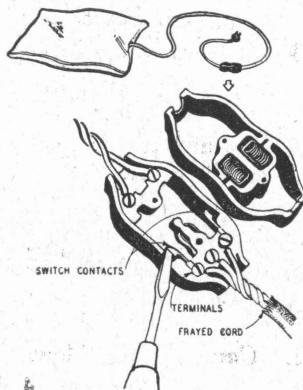

Fig. 23
**Remedy:** If switch is broken, replace it. If contacts are sprung or worn they can be repaired as shown in Fig. 23.